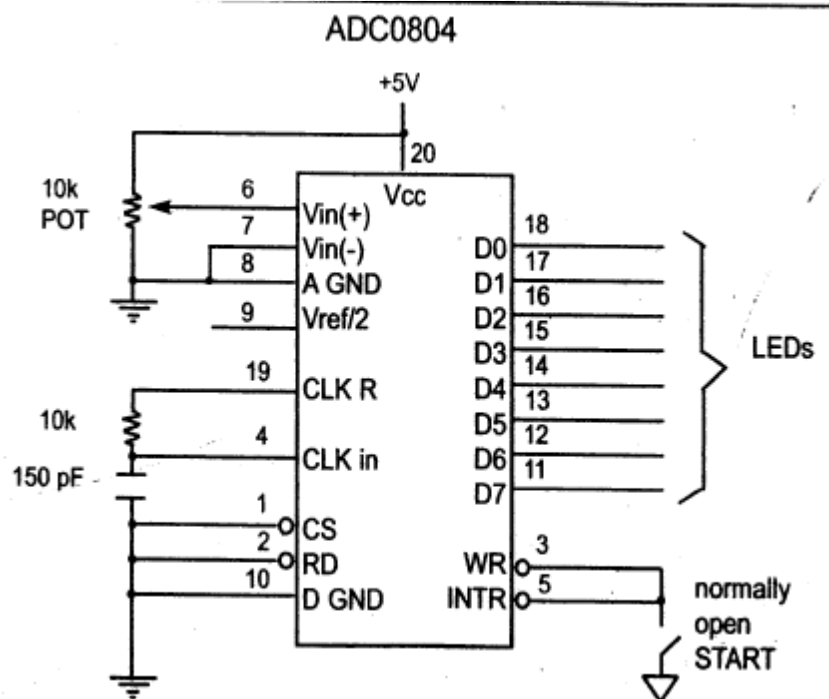

Figure 5.5.1 ADC804 Chip (Testing ADC804 in Free Running Mode)
- Figure 5.5.1 is the Pin out of ADC804 in free running mode.